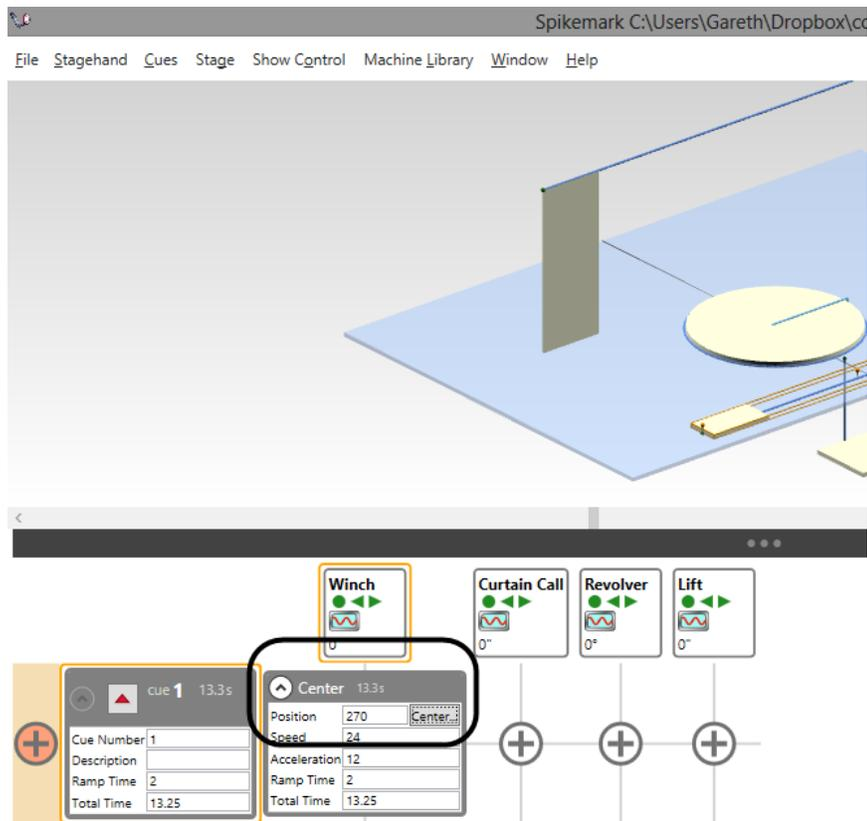

Figure 309
- The selected Spike will display in the motor's movement for the cue (Figure 309).